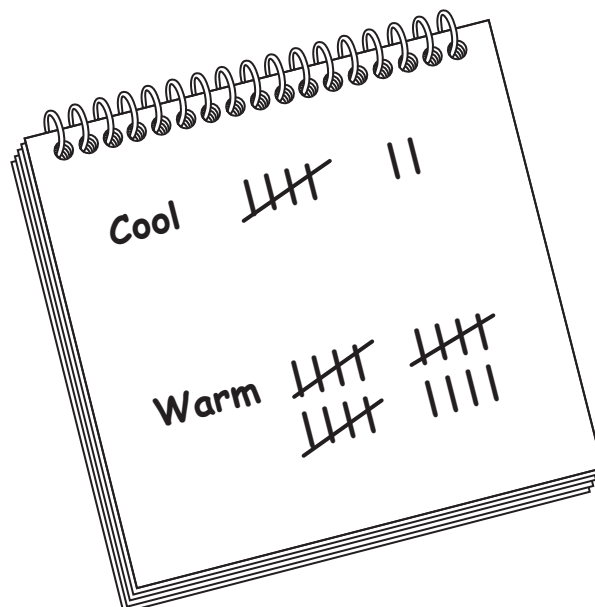

Fig. 1.2
Step 3 The student counted the number of gas bubbles produced by the yeast suspension in five minutes and recorded the results in a tally chart. This is shown in Fig. 1.2.
- (a) (i) Prepare a table and record the student's results shown in Fig. 1.2.